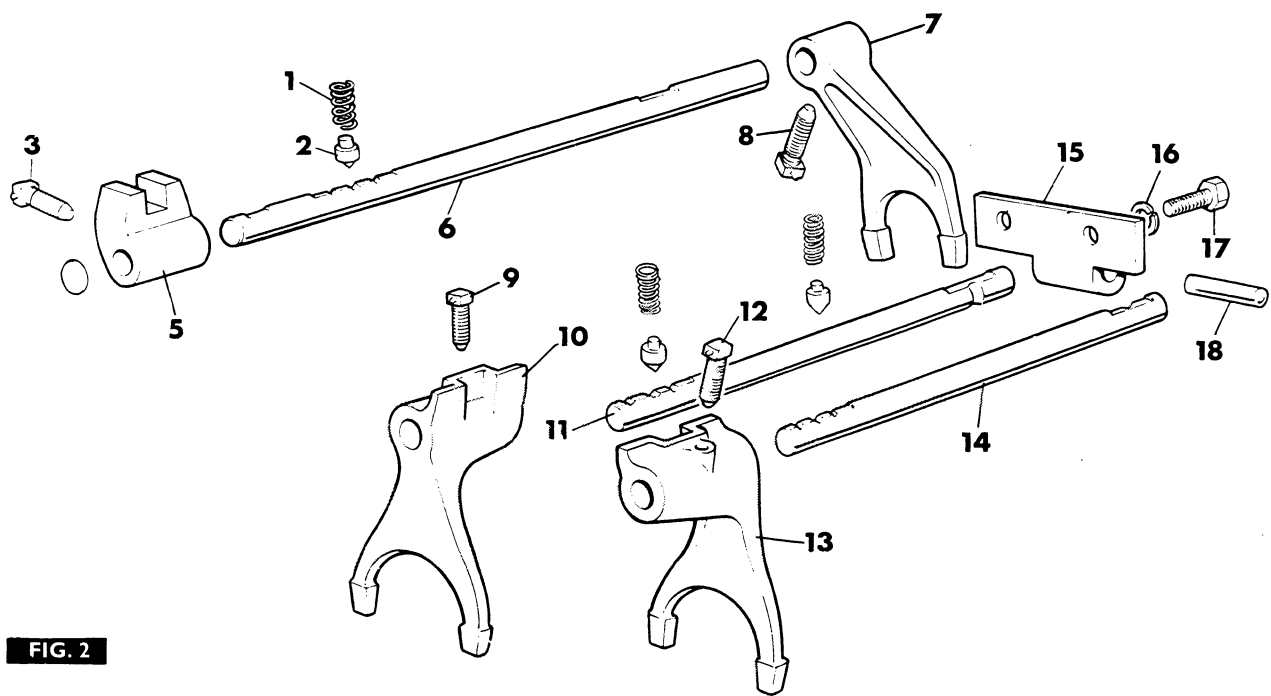

FIG. 2
- Fig 2. Release the locking wire from the 1st/rev. and 2nd/3rd shift forks (10,13), and from the rear end of the HIGH/LOW shift rail (6).